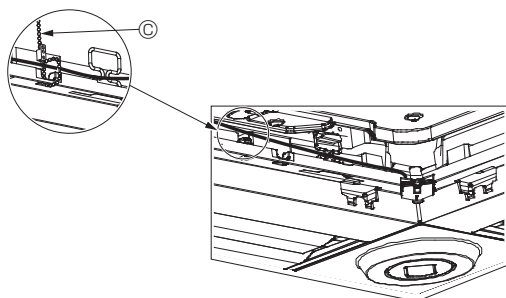

Fig. 5-13
- Secure the i-see Sensor and signal receiver wires to the panel with the fastener as shown in the diagram so that there is no slack in the wires, and then cut off the excess end of the fastener. (Fig. 5-13)
- If the position of the i-see Sensor was changed from the "○" position (E) to the "□" position (F), change the switch settings. (Refer to page 11.)